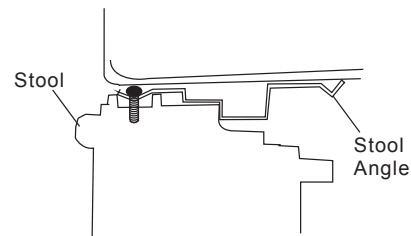

Fig.12
2. Place cabinet in window with bottom stool angle firmly seated over window stool as shown. Bring window down temporarily behind top angle to hold cabinet in place (Fig.12).
Step 2. Remark a line on the provide R1 insulation panel according to a length 1/8" (3mm) less than the measured width in step 1, then cut the R1 insulation panel along the line (Fig.12).